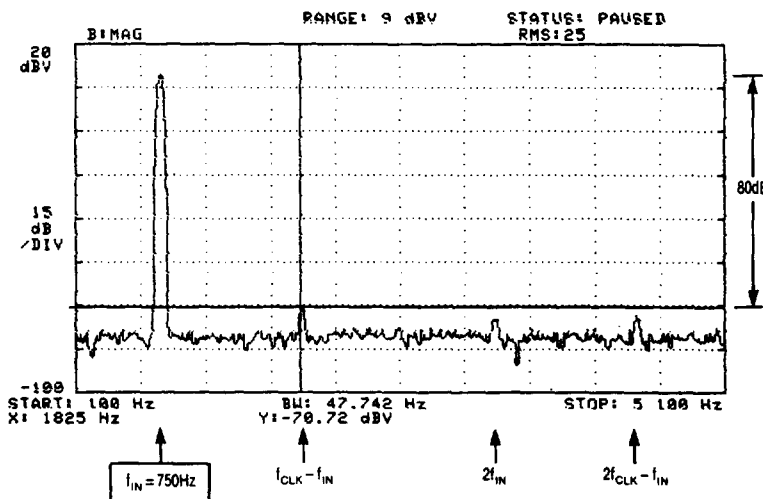

Figure 5A. Output Voltage Spectrum of 1/2 LTC1051 Operating as an Inverting Amplifier with Gain of 10, and Amplifying a 750Hz, 800mV Input AC Signal.
2. If we arbitrarily accept that “aliasing” occurs when output alias signals reach an amplitude of 0.01% or more of the output signal, then: The approximate minimum frequency of an AC input signal which will cause aliasing is equal to the internal clock frequency multiplied by the square root of the op amp feedback factor. For instance, with closed loop gain of -10, the feedback factor is 1/11, and if $f_{CLK} = 2.6\text{kHz}$, alias signals can be detected when the frequency of the input signal exceeds 750Hz to 800Hz, Figure 5A.